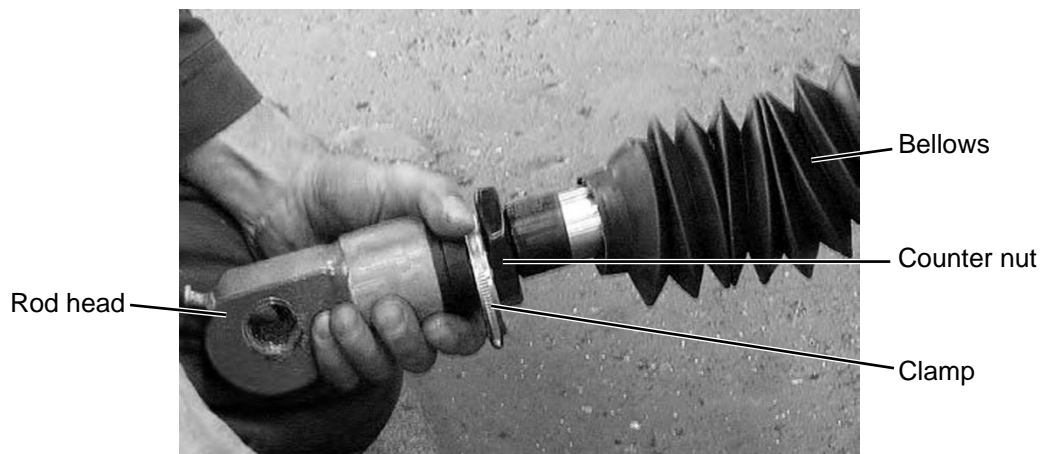

Figure 35: Tilt cylinder
- Loosen the hose clamps of the bellows on the tilt cylinders and slide the bellows down (see Figure 35).